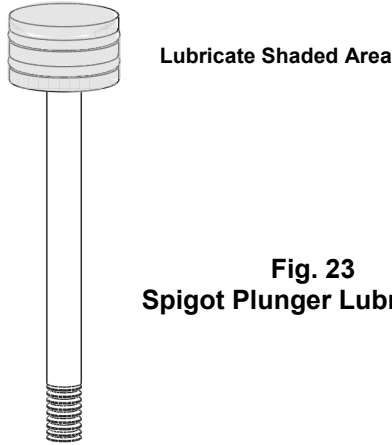

Fig. 23
- a. Install the two o-rings on the spigot plunger by rolling them onto the plunger. Seat the o-rings in the grooves. Be certain that they are not twisted. Smooth the lubricant into the grooves and over the sides of the plunger assembly (Fig. 23).